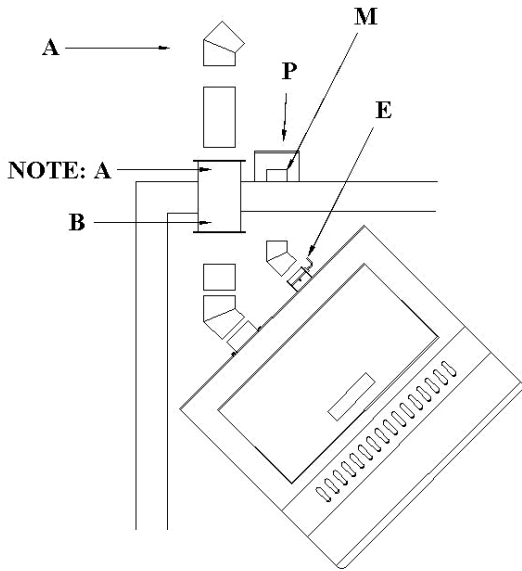

Figure 2
Legend for Figures 2 through 5
1. PL vent may be installed directly through a combustible wall, ceiling or roof according to PL vent manufacturer's instructions. (See Figures 2 and 3).